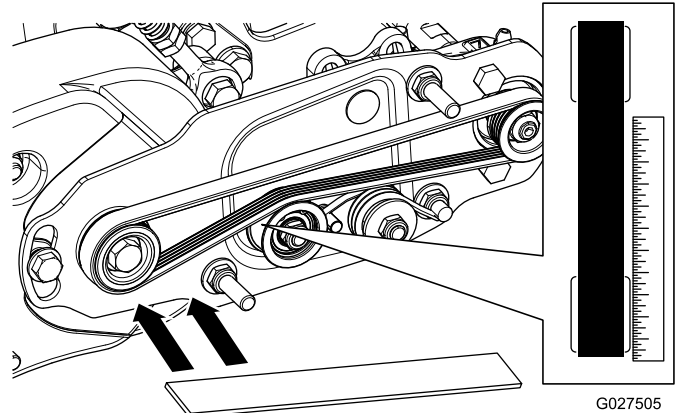

Figure 15
- Lay a straightedge along the outer face of the **drive** pulley (Figure 15). **Do not** lay the straightedge across both the drive pulley and the driven pulley.